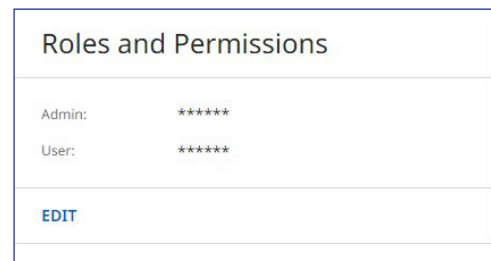

Figure 39. Roles and Permissions Panel
1. In the **Roles and Permissions** panel, click **EDIT** (see figure 39). The **Role and Permission Settings** dialog box opens.